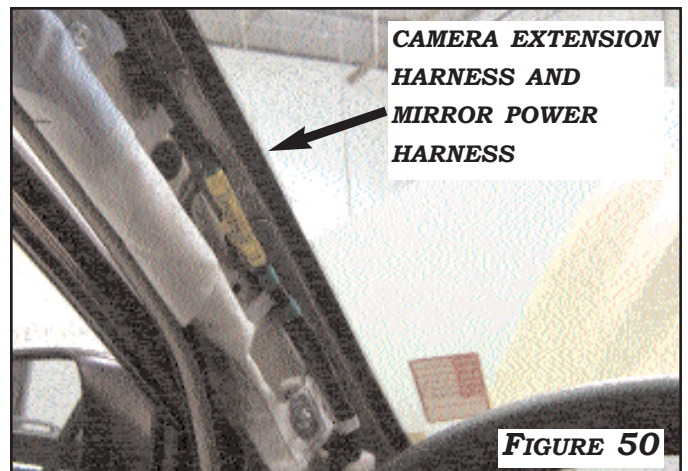

FIGURE 50
1. ROUTE **CAMERA EXTENSION HARNESS** AND **MIRROR POWER HARNESS** (RED, BLACK AND WHITE WIRES) ABOVE HEADLINER TO DRIVER-SIDE A-PILLAR. ROUTE HARNESSES DOWN THE A-PILLAR USING THE FACTORY RETAINING CLIPS OR FOAM TAPE WHENEVER POSSIBLE. IF THE VEHICLE HAS SIDE CURTAIN AIRBAGS, BE SURE TO SECURE THE HARNESS SO THAT IT DOES NOT INTERFERE WITH AIRBAG DEPLOYMENT. ROUTE THE HARNESSES FROM THE A-PILLAR TO THE KICK PANEL. **FIGURE 50**